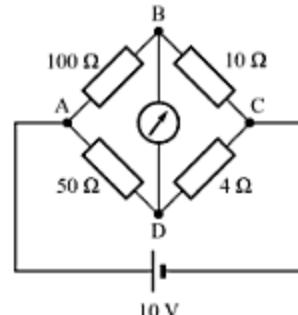

Fig. 4.51
21. A Wheatstone bridge is shown in Fig. 4.51. The galvanometer connected across B-D has a resistance of  $20\ \Omega$ . Using Thevenin's theorem, compute the current through this galvanometer. [Ans.  $5.12\text{ mA}$ ]